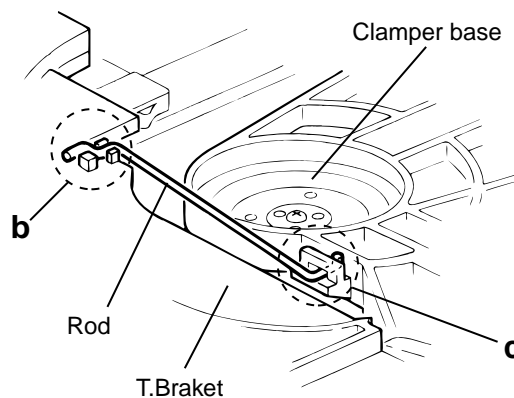

Fig.2
## ■ Removing the CD tray assembly (See Fig.2~4)
1. Remove the front panel assembly. (See Fig.2~4)
4. From the T.bracket section "b" and clamber base section "c", remove both of the edges fixing the rod(See Fig.2 and 3).